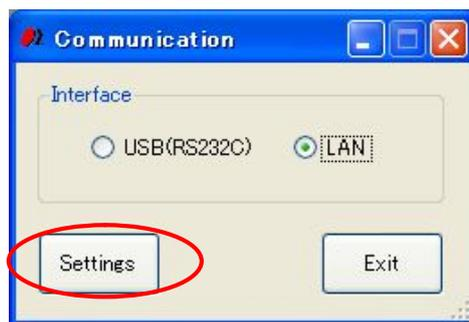

Fig.3-2 Communication setting screen
(Fig.3-2)
4. Please open communication setting screen (Fig.3-3) from Fig.3-2“Communication”.